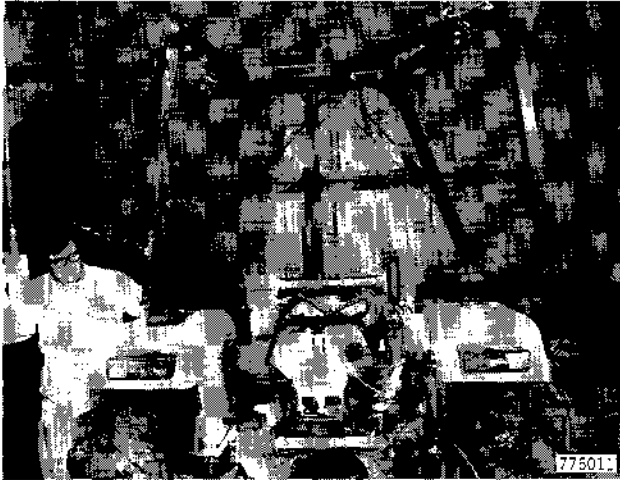

Figure 360
37. Install ROPS using a chain hoist capable of lifting 1000 pounds (454 kg), Figure 360.